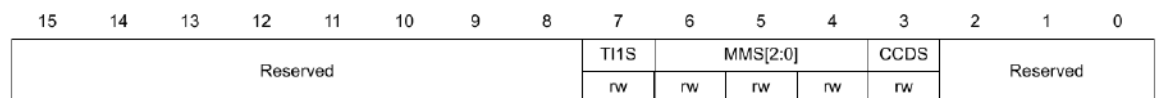

Figure 12.3.5.30.1: Control Register 2 (CR2)
**Solution:** The MMS bits can be seen in the CR2 register is shown in Fig. 12.3.5.30.1. The TS and SMS bits are visible in the SMCR register in Fig. 12.3.3.16.1.